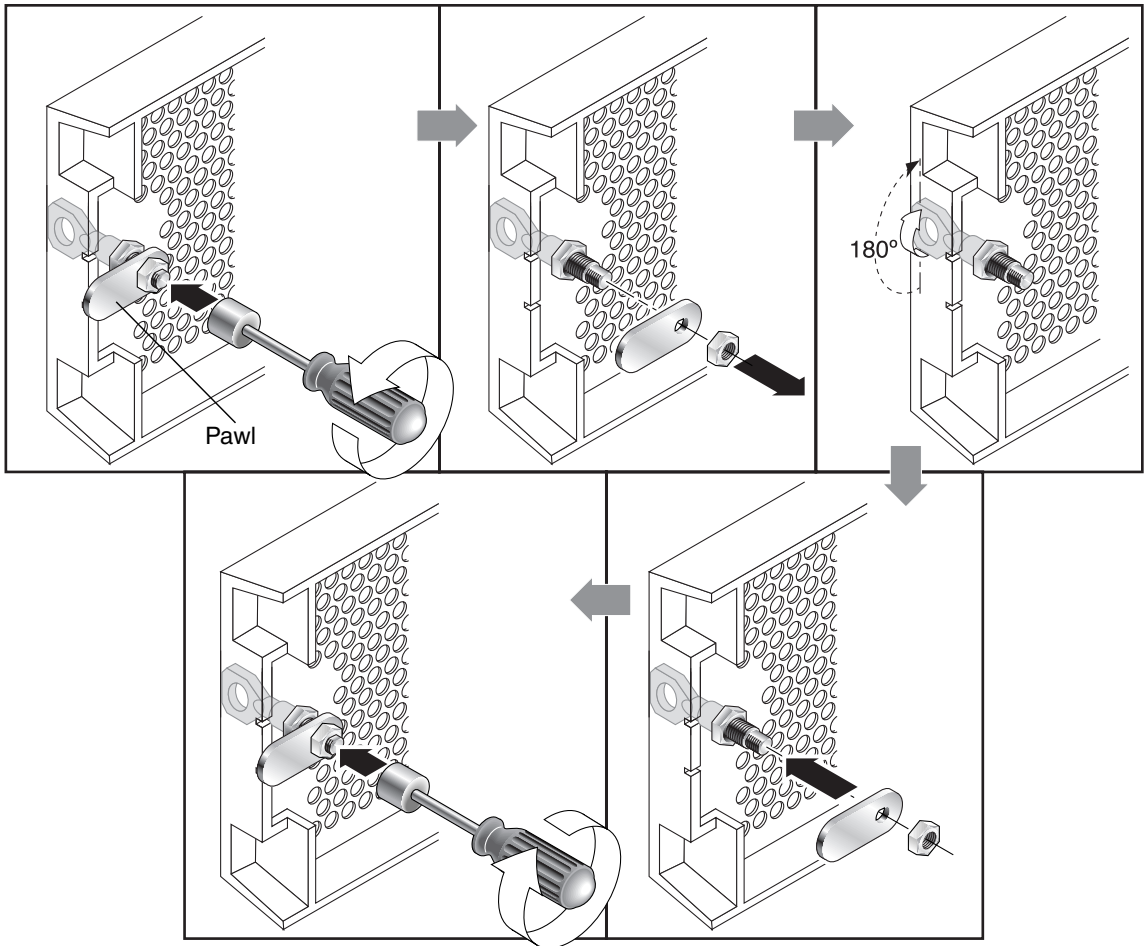

FIGURE 1-2 Sequence of Steps to Change Front Bezel Locks So Keys Cannot Be Removed
1. Remove the bezel by gently pivoting the swing arms out of their ear sockets, and make sure the key is in the locked position, with the pawl extending horizontally past the edge of the bezel (see the first panel of FIGURE 1-2).
2. Hold the key in place and use a 12 mm or 3/8-inch nut driver to remove the locking nut that holds the pawl in place as shown in the first panel of FIGURE 1-2.
3. Lift the pawl off the threaded part of the lock body, as shown in the second panel of FIGURE 1-2.
5. Use the key to turn the lock 180 degrees, as shown in the third panel of FIGURE 1-2.
6. Replace the pawl in the same orientation as before, as shown in the fourth panel of FIGURE 1-2.
7. Hold the key in place and use the nut driver to refasten the locking nut that holds the pawl in place, as shown in the fifth panel of FIGURE 1-2. Be careful not to cross-thread the nut.